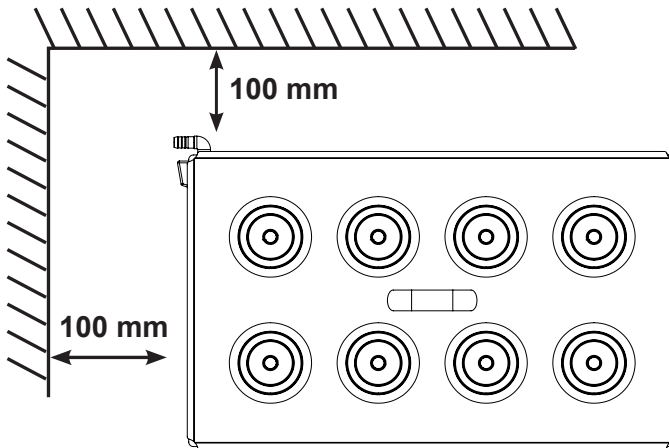

Figure: 17.1
2. Make sure that minimum 100 mm gap is maintained between body and wall as shown in fig. 17.1